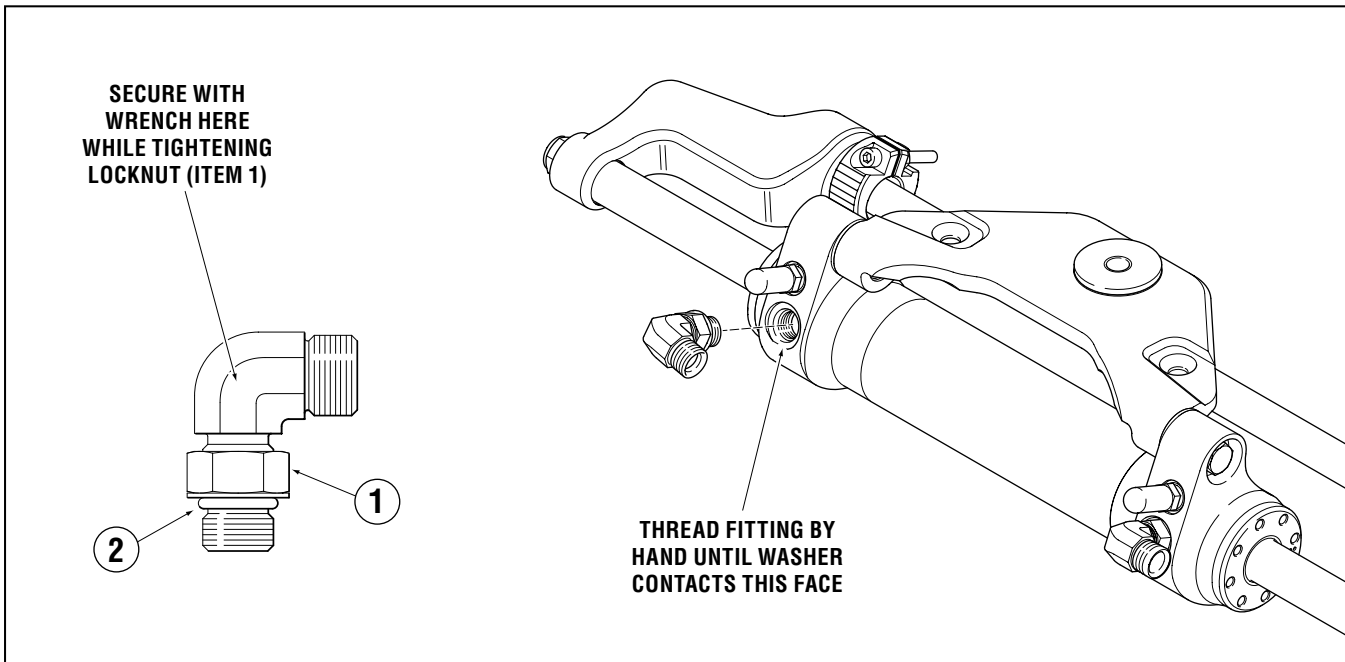

Figure 5.
1. Back off lock nut (item 1, figure 5), counter-clockwise, until it stops.
2. Thread fitting into cylinder body until fitting washer (item 2, figure 5) contacts the face of the cylinder port. Tighten hand tight, **DO NOT TORQUE FITTING AT THIS TIME.**
4. While holding fitting with a wrench, tighten the locknut (item 1, figure 5) and torque to 40–43 ft-lb.